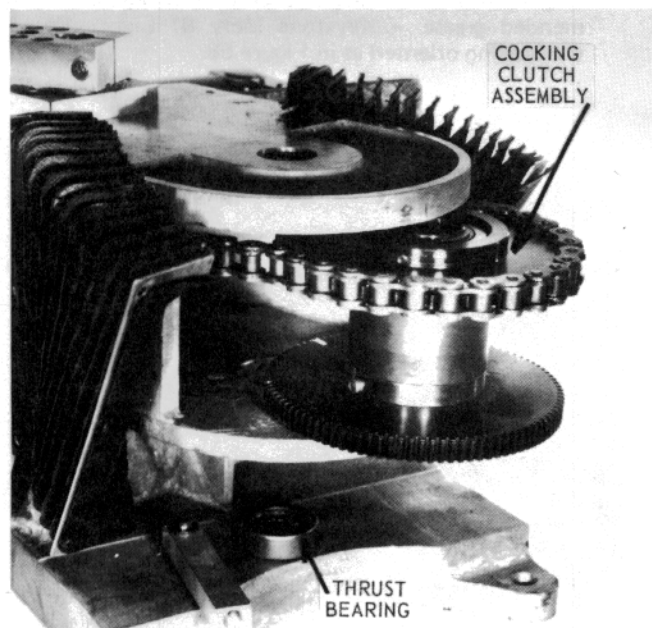

Figure 52 — Cocking Clutch Assembly
2.1.12 Remove the cocking clutch assembly (see Figure 52).